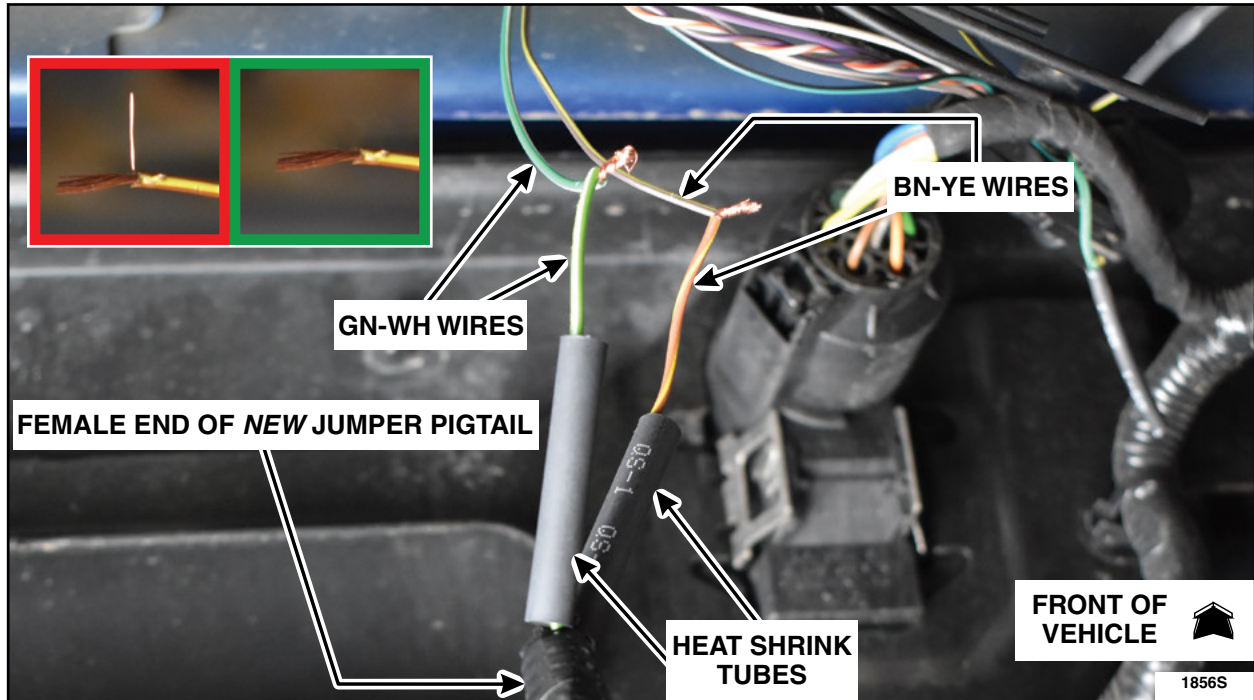

FIGURE 21
24. Place a piece of dual wall heat shrink tube onto each GN-WH and BN-YE wires. Install the female end of the *new* jumper pigtail to the corresponding wire colors of the female end of the vehicle harness by twisting the exposed wires together. See Figure 21.